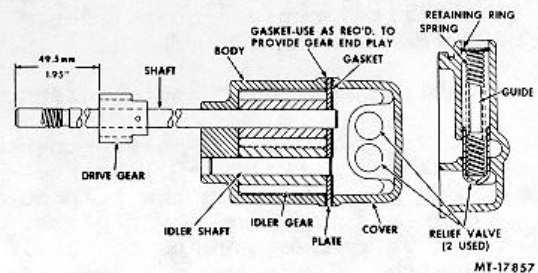

Fig. 105. Sectional View of Oil Pump Assembly
The engine oil pump is a high capacity conventional gear type unit driven from a spiral gear on the engine camshaft (Fig. 105). Two identical pressure relief valves are used to accommodate the pump's capacity. When the oil pressure reaches to specified setting, the relief valves operate to permit the oil to circulate within the pump. The oil pump gear end play is adjusted by gaskets between the pump body and gear plate. The oil pick-up screen assembly is fixed in place and is located so the oil is drawn from the oil pan under the surface of the oil supply.
8. Press the oil pump drive gear on the shaft to the dimension shown in Figure 105.